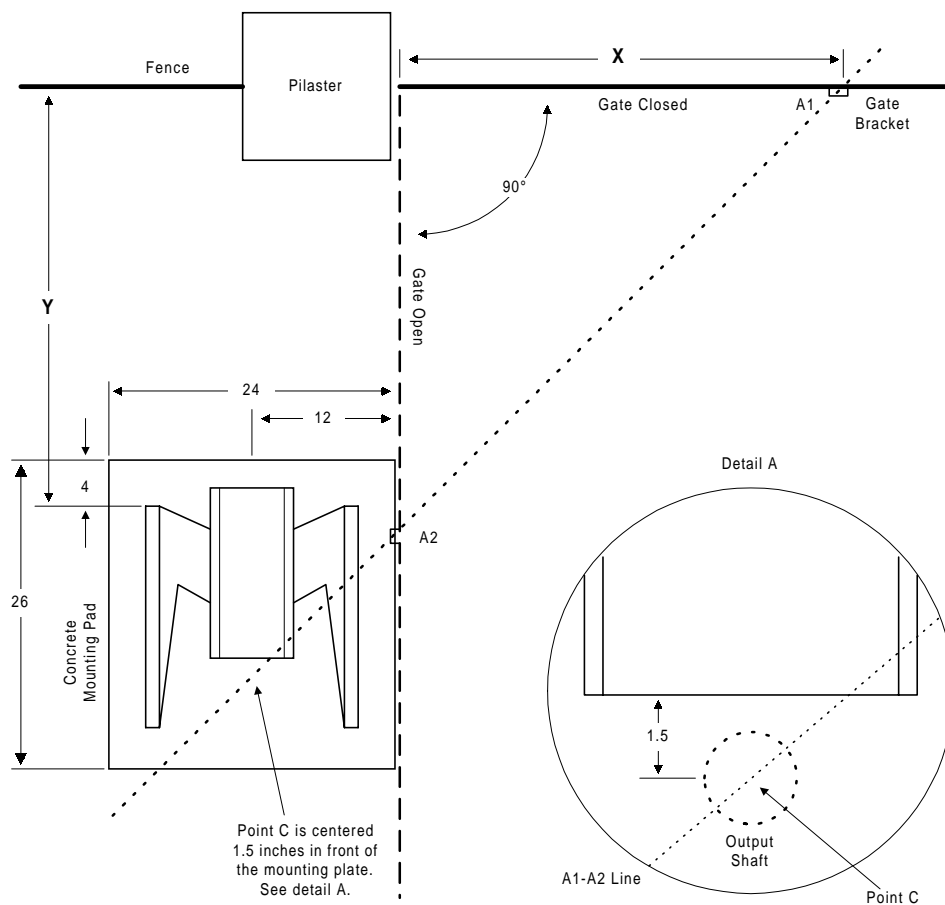

Figure 5
- Using Table 2 and Figure 5 determine the location of the concrete pad and mounting plate. The location of the pad and base plate and the Y measurement is dependent on the X measurement that you choose.
- Anchor the concrete mounting plate to the pad using eight (8) 3/8 x 3 sleeve anchors (not supplied). It is important that the concrete base plate is located correctly on the pad so that the A1-A2 line will intersect the operator output shaft as shown in Figure 5.